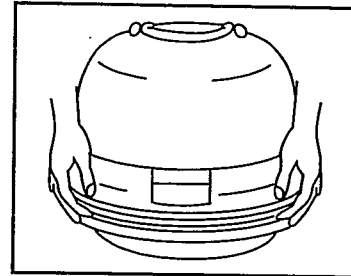

Figure 1
2. Push the Twin Locks, located on either side of the Dryer Base, at the same time and lift the Hood straight up and out forward (Fig. 1).